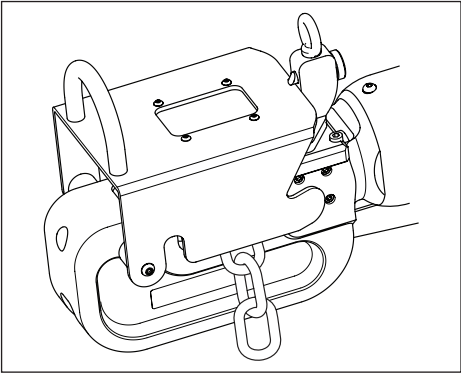

Figure 14, Chain Being Cut (typical)
10. After all oil is evacuated, remove the three screws for the standoff bracket and remove the standoff bracket from the bottom of the cutter. See Figure 14.